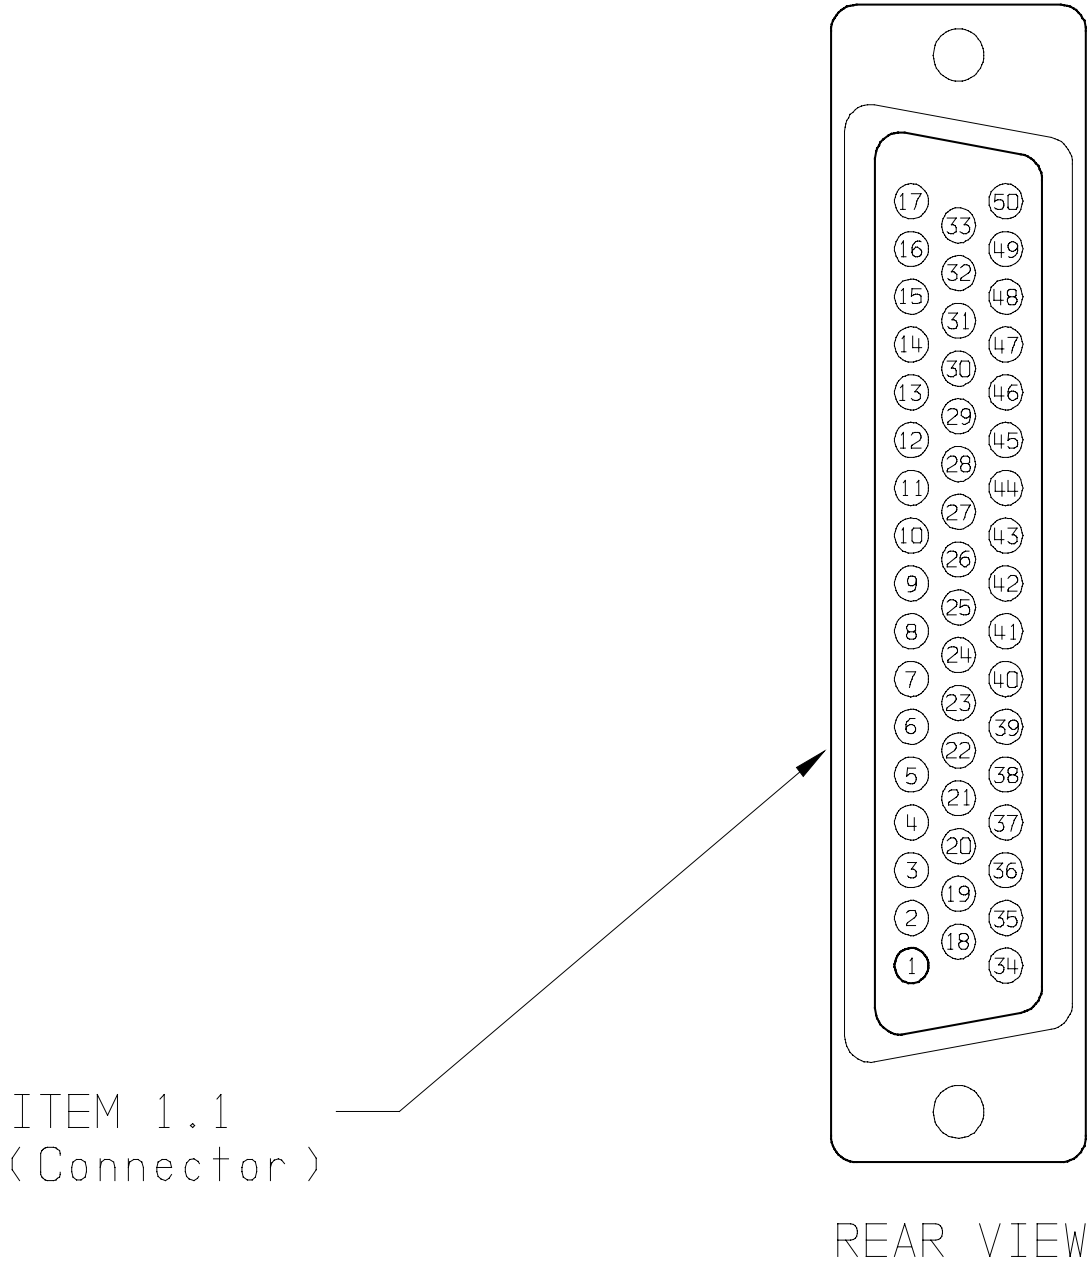

FIGURE 2-1.1 MK XXII EGPWS CONFIGURATION MODULE
STEP 1 Install all MK XXII system aircraft wiring to this connector using items 1.2 (Crimp Contacts) and item 1.1 (Connector). See figure 2-1.1 below.